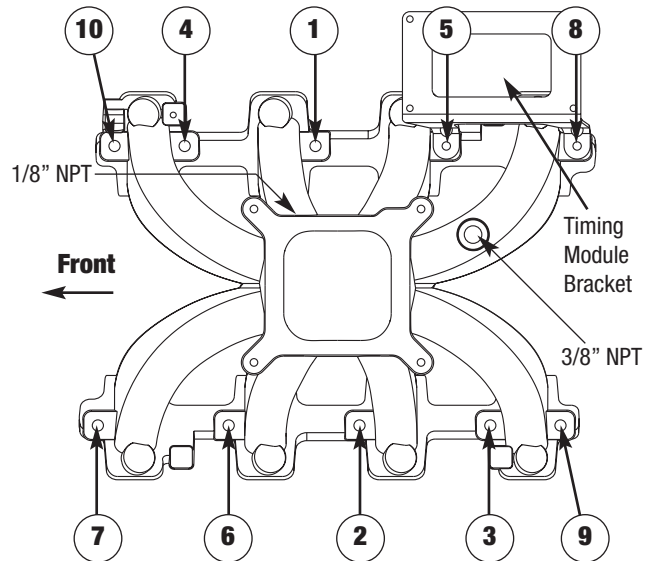

Figure 1 - Intake Manifold Tightening Sequence
1. (**Note:** Use only original equipment (GM P/N 12533587) O-Ring type gaskets when installing Victor Jr. intake manifolds, use Fel-Pro standard gaskets #1312-3 with Super Victor manifold #28095). No gasket sealer is required when using the OEM type gaskets. Using the supplied 6mm x 50mm hex head bolts and ¼" AN washers, mount the manifold to the engine. The Gen III throttle bracket mounts under the two left side rear intake manifold bolts, and the timing control module bracket is mounted under the two right rear bolts. Following the torque sequence in **Figure 1**, torque all manifold bolts to 11 ft/lbs.
3. (#2908 Only) Apply a bit of liquid Teflon thread sealant to the threads of the supplied 1/8" NPT to ¼" hose fitting and install the fitting into the 1/8" NPT hole in the passenger side of the plenum (**See Figure 1**). Install your carburetor and using the rear passenger side carburetor stud/nut, attach the MAP sensor and bracket to the carburetor (**See Figure 3**). Connect the sensor to the fitting with the supplied ¼" hose.